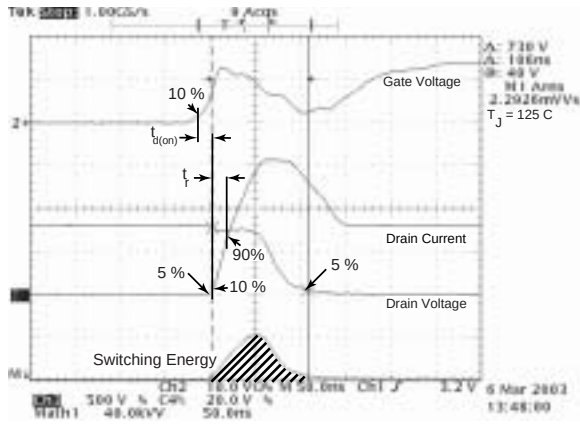

Figure 18, Turn-on Switching Waveforms and Definitions
① Repetitive Rating: Pulse width limited by maximum junction temperature
② Pulse Test: Pulse width < 380 μs , Duty Cycle < 2%
③ See MIL-STD-750 Method 3471
④ Starting $T_j = +25^\circ C$, $L = 7.11mH$, $R_G = 25\Omega$, Peak $I_L = 30A$
⑤ dv/dt numbers reflect the limitations of the test circuit rather than the device itself. $I_S \leq -30A$ $di/dt \leq 700A/\mu s$ $V_R \leq 1200$ $T_j \leq 150^\circ C$
⑥ E_{on} includes diode reverse recovery. See figures 18, 20.